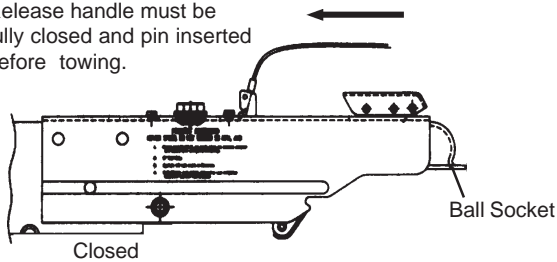

Figure S6: Surge Brake Actuator & Coupling Assembly
For boat models with the Surge Brake Actuator and Coupling Assembly shown in Figure S6, lift the release handle to unlock the coupler. Push down on the release handle/locking lever to lock the trailer to the ball hitch. The locking pin, provided with the trailer, or a padlock **must be inserted** in the locking lever hole. This ensures the coupler's locking lever remains in the locked position during towing of the trailer. Refer to Section S-3 Operation for additional information on couplers and hitching to the tow vehicle.
2. Lift up on release handle fully (approximately 30° for a trailer with brake actuator and coupler assembly) to allow the ball latch to rotate open. The handle will remain up to indicate that it is not yet attached to the ball. See Figure S6.